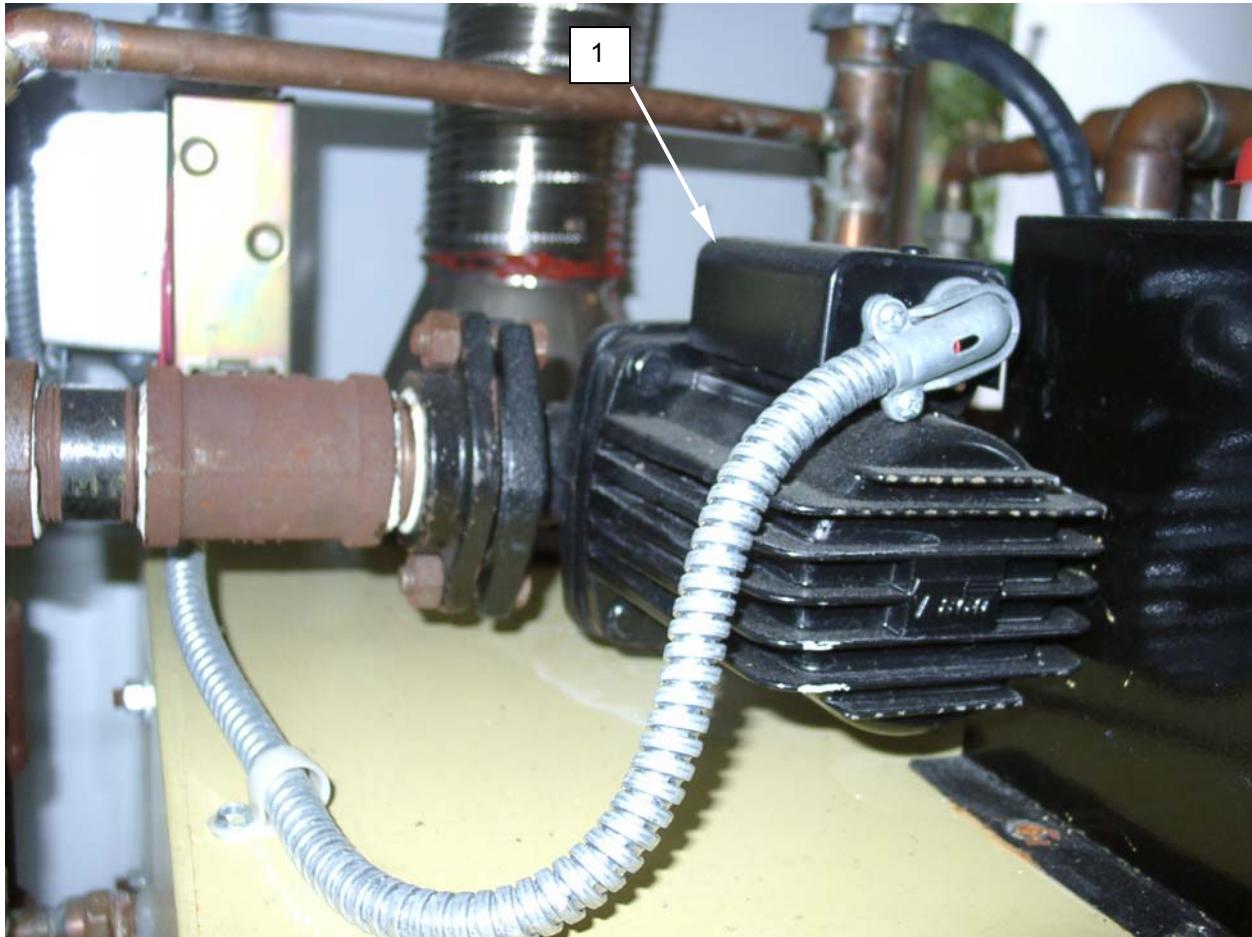

Figure 1. Test the Circulation Pump Motor.
2. Remove screws retaining junction box cover (**Figure 1, Item 1**) and remove cover.
7. Install junction box cover (**Figure 1, Item 1**), and retain with screws.